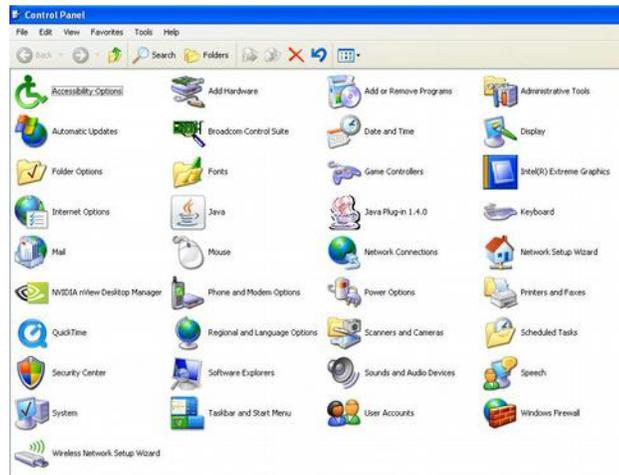

Figure 1
1. Select Control Panel from the Windows Start button. The screen should look like Figure 1 below.